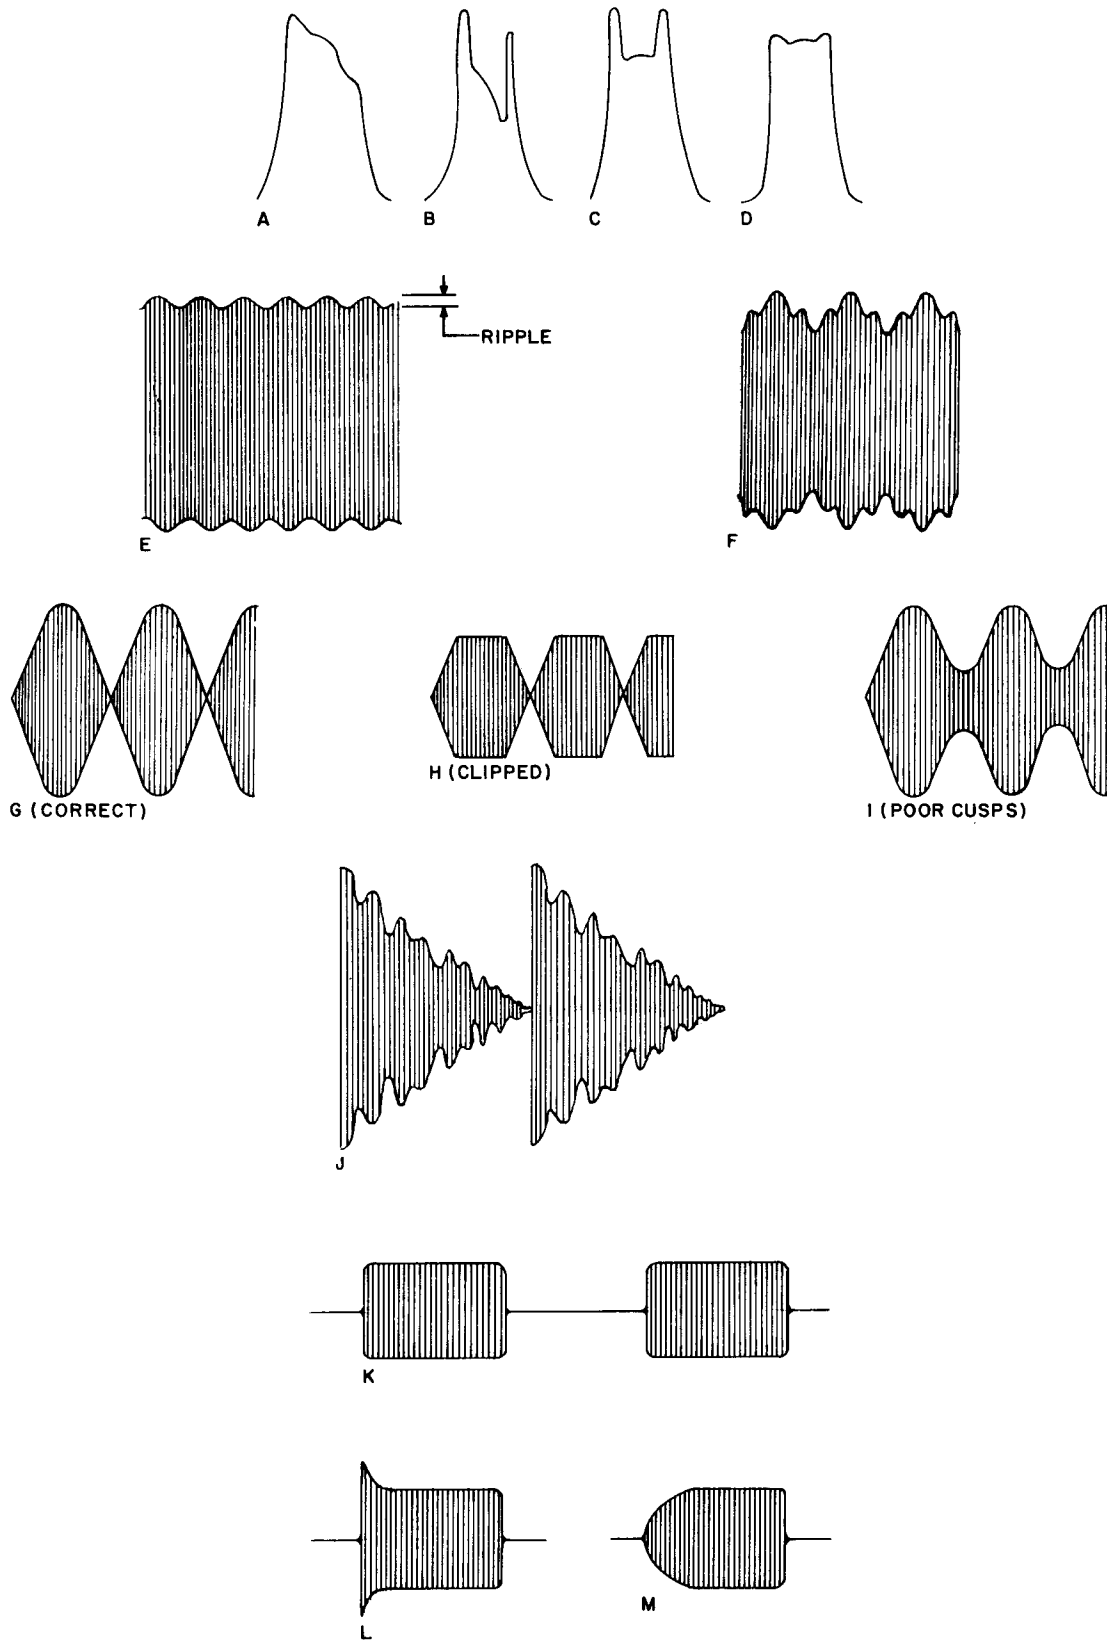

Figure 5. NCX-3 Wave Forms
Release the push-to-talk button; the relay of the NCX-3 should close indicating a return to receiving condition. The display on the oscilloscope should disappear as the relay clicks. Remove the high-frequency oscilloscope connection and the signal generator connection. Set the function switch to AM. Attach the output of the 5 mc. sweep generator to the grid (Pin 7) of the 12BE6 receive mixer. Connect the low frequency oscilloscope probe to the junction of C78, C87, D1, and D2. With the sweep generator output set for approximately 500  $\mu$ v., the oscilloscope display should indicate a filter curve with a shape similar to that indicated in figure 5-A. The slug of the filter output coil (T2) should be slowly withdrawn from the coil to elevate the right-hand side of the display. If the display indicates excessive peak-to-valley excursions, or "ripple", the top slug of the balanced modulator transformer (T1) should be carefully adjusted to minimize this ripple as indicated in figures 5-B and 5-C. The bottom slug of the balanced modulator transformer (T1) may be slightly adjusted to correct tilt in the filter curve. With proper alignment, the resulting curve should look like figure 5-D.
reaches 150 volts peak-to-peak. The cathode current meter should, at this point, indicate a current in the region of 250 ma. The wave form at this point should appear as indicated in figure 5-E. It is necessary to note the level of ripple on the wave form relative to the total wave form level. The ripple should not exceed 1/50 of the total wave form.
It is important to note the difference between carrier balance and unwanted sideband suppression in the previous measurement. If the CARRIER BALANCE control is rotated ever so slightly, the wave form of figure 5-E will be altered to the wave form of figure 5-F. If this wave form is present while attempting to make the sideband suppression measurement, the CARRIER BALANCE control should be slightly adjusted in order to compensate and return the wave form to that of figure 5-E.
Now, further advance the MIC GAIN until the cathode current meter just reaches 300 ma. as set by our previous tune-up procedure. Note the oscilloscope level. Slowly advance the CARRIER BALANCE control either cw or ccw from the balance setting. As this occurs, the wave form will begin to develop large cusps and peaks which will tend to exceed the noted oscilloscope level. Slowly reduce the MIC GAIN. By carefully adjusting between the MIC GAIN and the CARRIER BALANCE control keep the peaks at the pre-determined level. It should be possible to obtain a picture as illustrated in figure 5-G. It is important that the peaks of this figure be exactly at the level determined with the balanced carrier at 300 ma. of the cathode current. This is equivalent to a two-tone test and is useful in indicating distortion in the transmitter channel and performance of the modulating circuits. The wave form which is observed should have a clean sharp cusp and should have a sine wave envelope. There should be no flattening of the peaks and no broadening of the cusps. Typical *incorrect* wave forms are indicated in figure 5-I.
If all tests are completed satisfactorily, we can assume that the transmitter is working properly, although it is of value to check the dynamic operation of the transmitter with speech information. To do this, return the MIC GAIN to zero and balance the carrier with the CARRIER BALANCE control. Now, remove the audio generator from the microphone jack and replace it with the test microphone. Press the push-to-talk button and speak normally into the microphone. Slowly advance the MIC GAIN control until the peaks of the resulting signal reach the amplitude used for the previous two-tone type of test. At this point, the cathode current meter will be fluctuating rapidly with the speech content. The current meter should generally average around 100 ma. of current and the output wave form should appear as illustrated in figure 5-J.
11. Set the transmitting key for a long series of dots. Adjust the CARRIER BALANCE control for transmitter output just below full power. Observe the series of keying pulses on the high-frequency oscilloscope. A proper keying pulse should appear as in figure 5-K. Figure 5-L and 5-M indicate improper keying sequences.